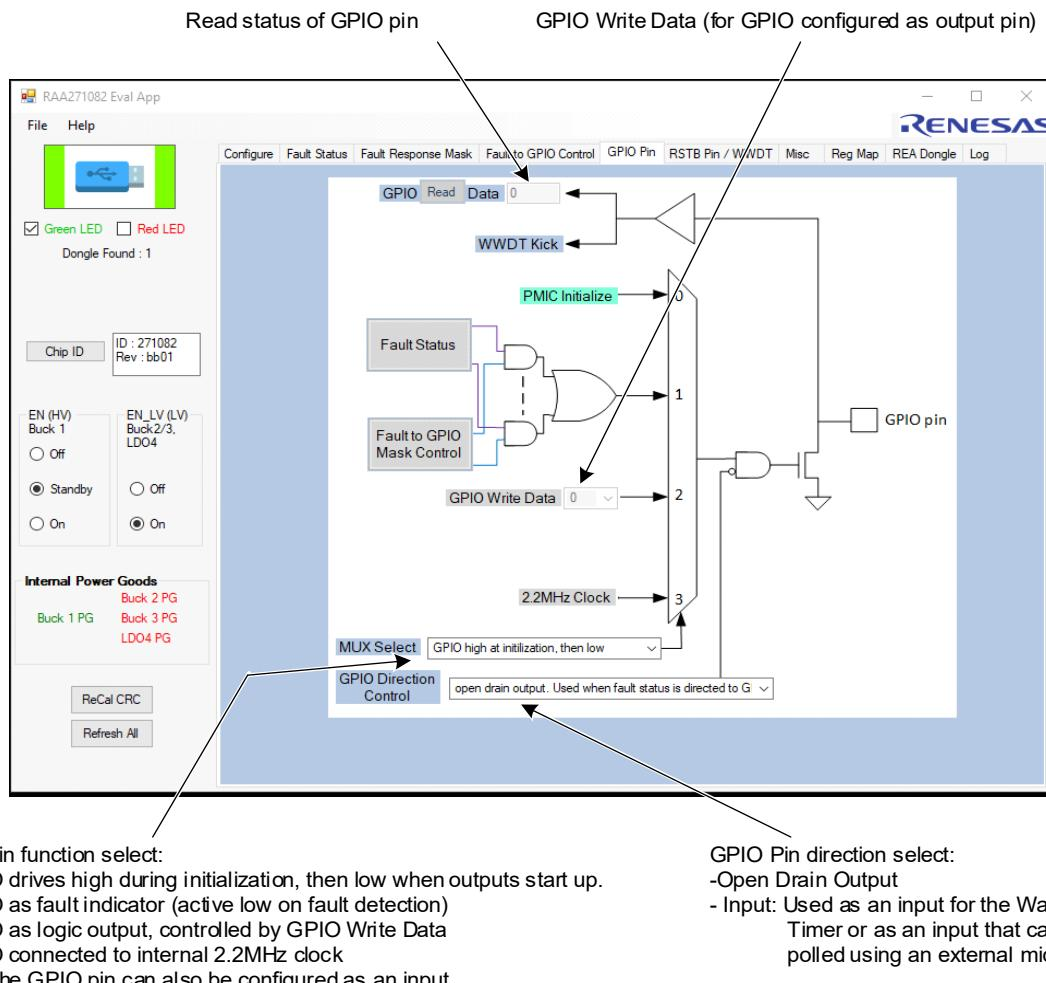

Figure 10. GPIO Pin Tab with Labels
The GPIO Pin tab shown in Figure 10 is selected by clicking the **GPIO Pin** button in the tab row. This tab controls the use of the GPIO pin. **Note:** All functions on this tab are controlled by the **GPIO_CTRL** register, register **0xA4**.
- **GPIO Pin function select:** For all options in this selection (see Figure 10, bottom left), the GPIO pin is configured as an open-drain output and an external pull-up resistor is required. On initial power-up, the GPIO pin defaults to option 1, drives high (open-drain) during initialization and then drives low when initialization is completed. Selecting any other Pin function must be done after initialization is completed. This is also true for setting the pin direction as an input.
- **GPIO Pin direction select:** The GPIO pin can be configured as an output or input, after the initialization is completed at power-up. All the selections in the GPIO Pin function select (Figure 10, bottom left) require the GPIO pin to be configured as an output. If the GPIO pin direction is selected as an input, this overrides the GPIO Pin function selection, and the pin operates as input-only.